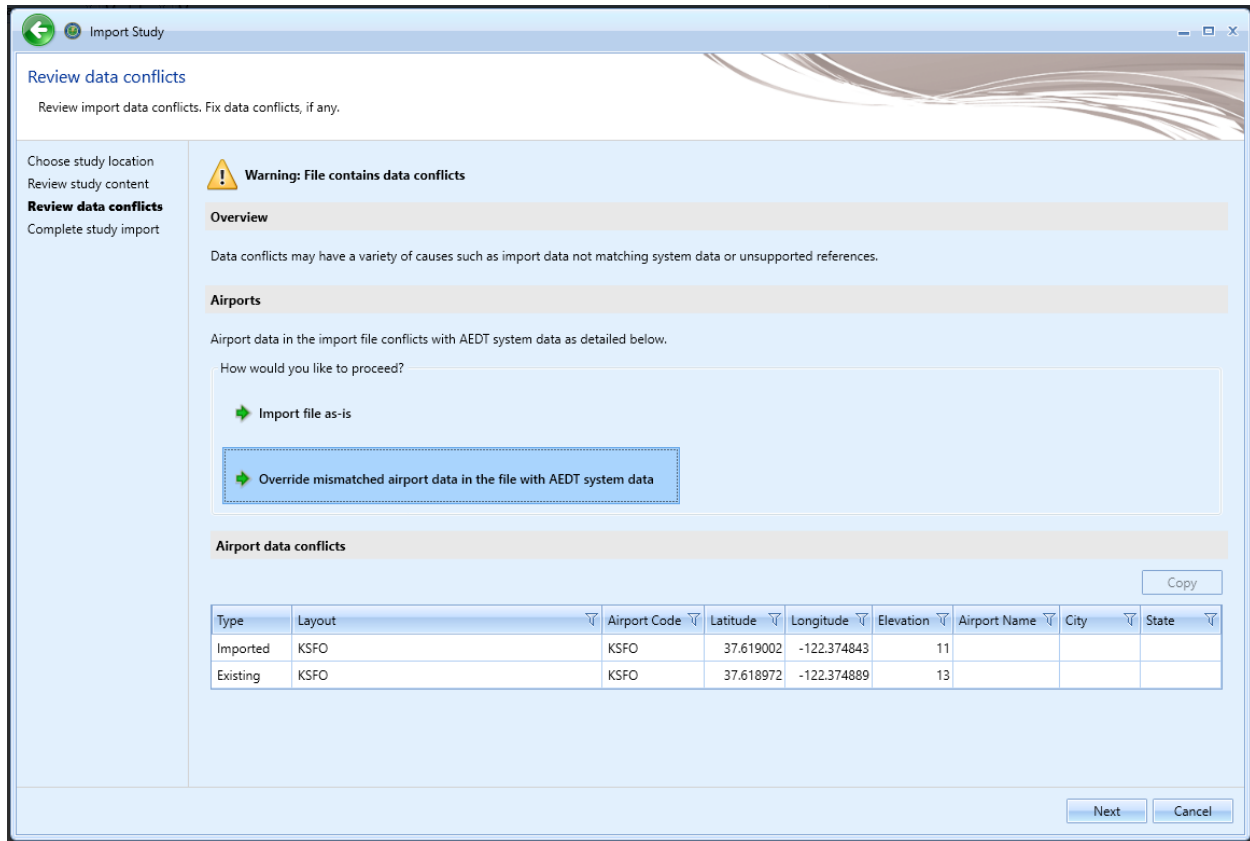

Figure 65. Review data conflicts
5. The *Review data conflicts* step displays any conflicts between study airport data and AEDT airport data (Figure 65).